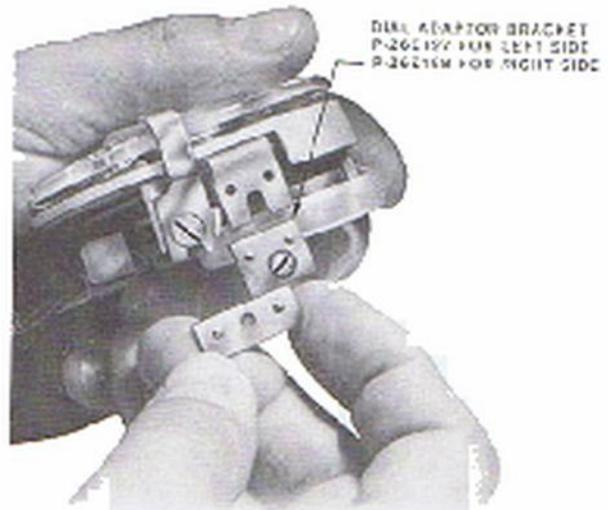

Fig. 10 — Placing Dial Adapter Brackets
5.02 Provision is made in the telephone sets currently being manufactured to allow rotary and TOUCH-TONE dials to be interchanged. If an interchange of dials is desired, it is necessary to change the faceplate assembly and add P-26E197 and P-26E198 dial adapter brackets to the rotary dial (Fig. 10).